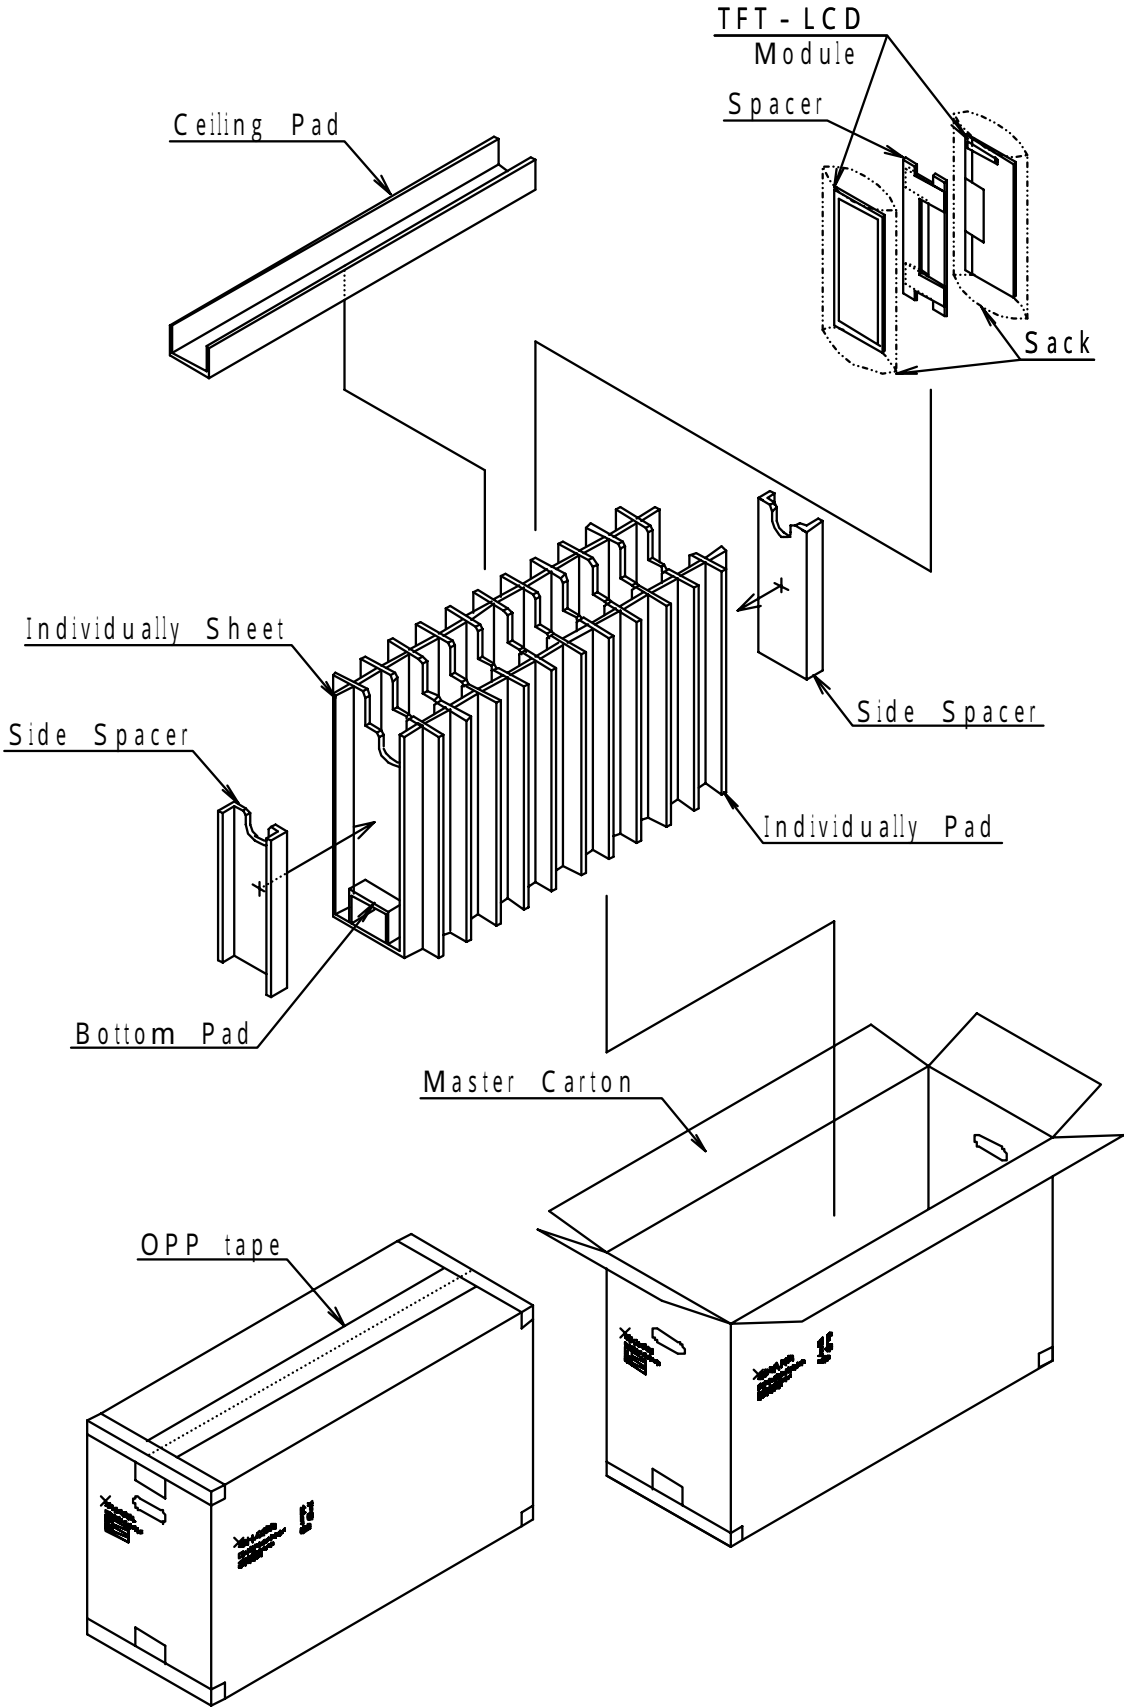

Fig4. Packing Form
12.1 Fig.4 shows packing form.